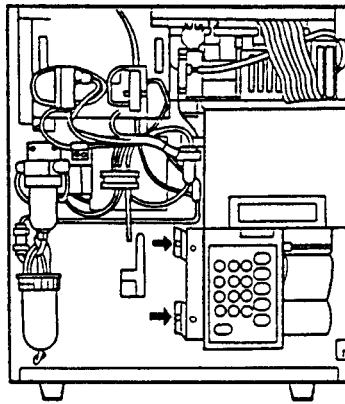

Figure 6-0-2 Removing two Phillips screws and washers
(1) Opening the operation Panel
- A. Unscrew and remove two Phillips screws and washers tooth lock external indicated by arrows in Figure 6-0-2.